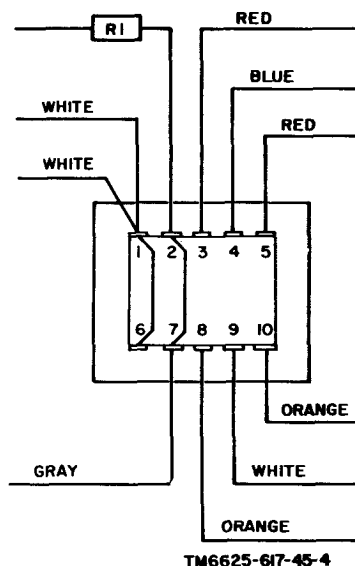

Figure 3-2. Transformer wiring diagram.
- (1) Install the replacement transformer in the chassis and reinstall the bolts that hold it to the chassis.
- (2) Reinstall the front panel and the three front panel screws.
- (3) Solder the leads to the transformer as shown in figure 3-2.
- (4) Solder the jumpers between, transformer terminals 1 and 6, and 2 and 7 for 115-volt operation, or between 2 and 6 for 230-volt operation.
- (5) Replace the chassis in the case.